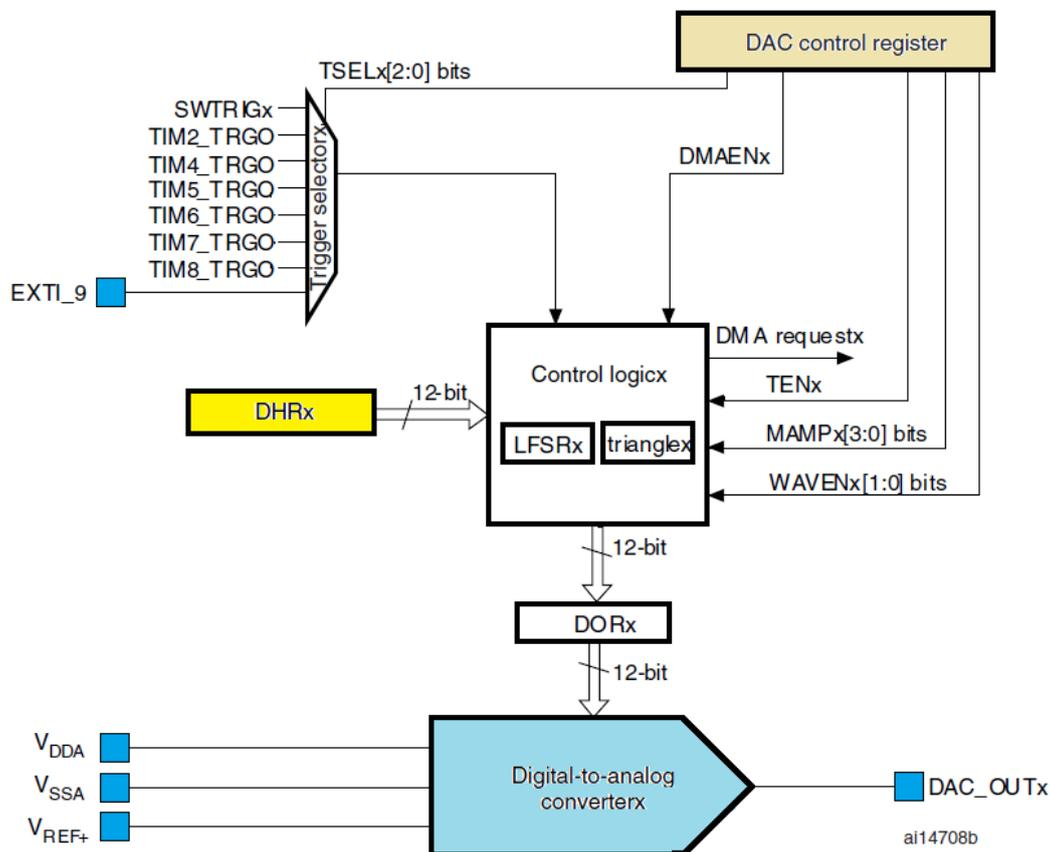

Figure 7.1: The block diagram of a single DAC
There are two 12-bit digital to analog converters (DAC) available. A principal block diagram for one of the two identical DACs is given in Fig. 7.1 (Fig. 64, RM0090, pg. 431). A letter 'x' can be '1' or '2', depending on the DAC in question.
- Member '.DAC_Trigger' tells the hardware enclosed in block Control logic when to copy data from the Data holding register to Data output register. In our case the hardware will copy data immediately after to software sends new value into register DHR, therefore option 'DAC_Trigger_None' is used. All available options are listed in the header file, lines 81 to 91. Basically, signals connected to the multiplexor, Fig. 7.1 top left, can be used to initiate the copying. These signals are coming either from timers inside the microcontroller, from external sources, or can be defined by software. In any case option other than the one used in the listing above assures an update of DAC outputs which is synchronous with the selected event.